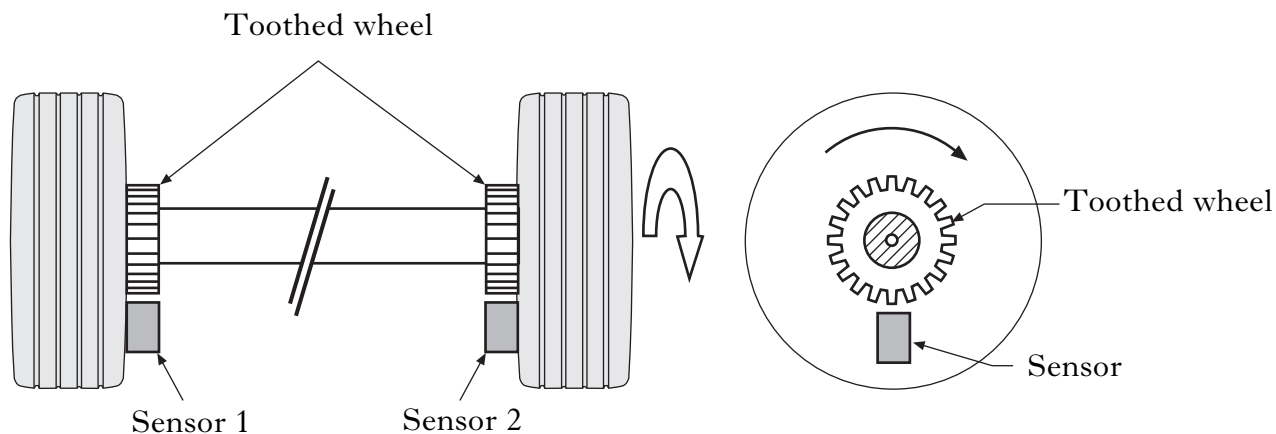

Figure Q9
9. A simplified schematic of a car's Anti-lock Braking System (ABS) is shown in Figure Q9. On each wheel hub there is a toothed wheel and sensor assembly.